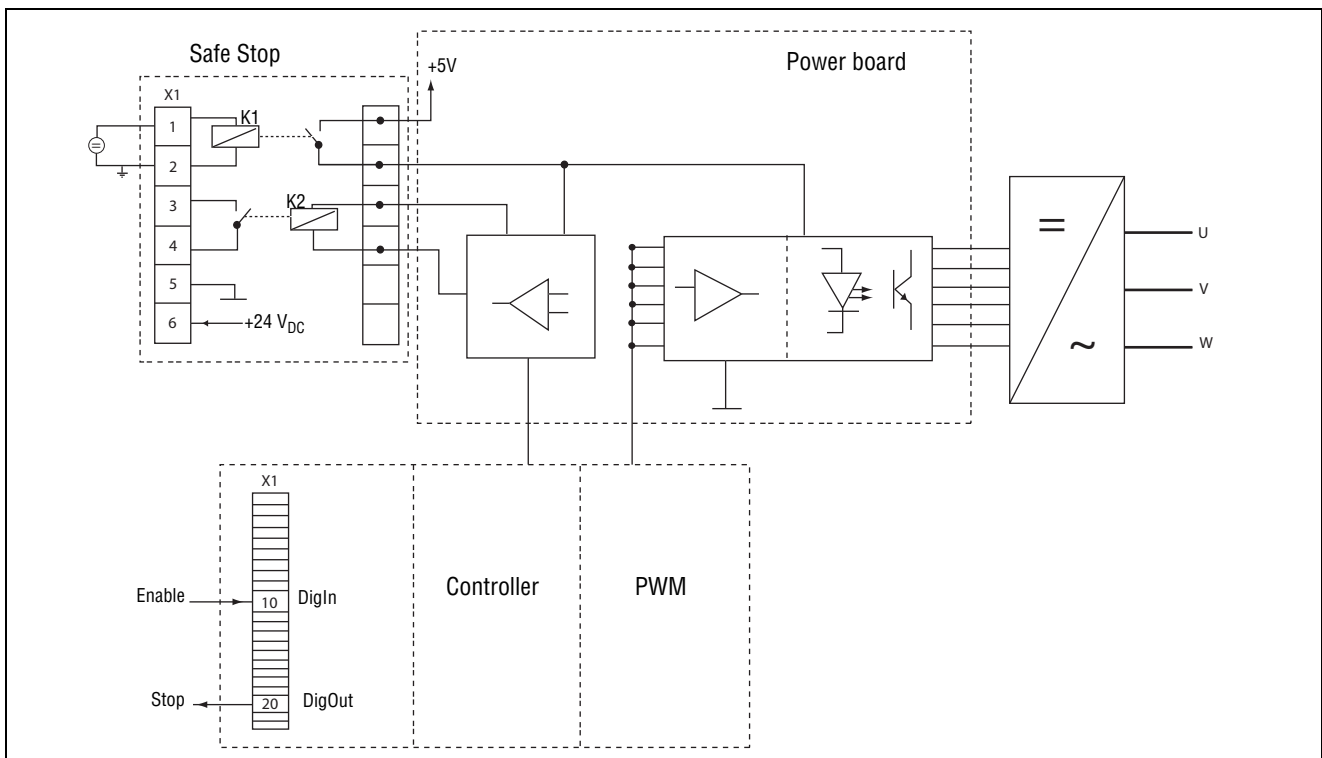

Fig. 105
- "Inhibit" input, terminals 1 (DC+) and 2 (DC-) on the Safe Stop option board should be made active by connecting $24 V_{DC}$ to secure the supply voltage for the driver circuits of the power conductors via safety relay K1. See also Fig. 105.
- High signal on the digital input, e.g. terminal 10 in Fig. 105, which is set to "Enable". For setting the digital input please refer to section 11-5-2, page 192.
To monitor the "Enable" function, the selection "RUN" on a digital output can be used. For setting a digital output, e.g. terminal 20 in the example Fig. 105, please refer to section 11-5-4, page 201 [540].